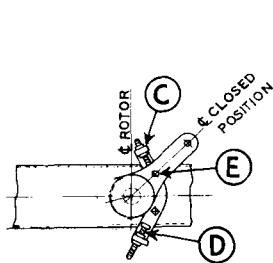

Fig. 4
(a) **Rotor Crank Stop . .** This is the stop arrangement found on the switch base, located near rotor crank. Plan views of this stop arrangement may be seen in Figures 4 and 5, page 5. This stop limits the travel of the rotating insulator, stopping the drive crank and consequently the rotating insulator stack in both the switch open and closed position. Adjusting bolts (C) and (D) which limit the rotor crank travel are secured solidly to switch base, and a projection (E) fastened to rotor crank strikes these adjusting bolts in the switch open and switch closed positions.
The final step in single pole switch adjustment is setting of the stop bolts which are on the switch rotor bearing. The closed position bolt of the rotor crank stop at the switch base should be adjusted so that it engages the mating projection on the rotor crank when the switch is in the fully closed position. See Figures 4 and 5.
To set the open position stop, the blade is moved to the full open position which is with the blade axis at 75 degrees with respect to the base axis, and again set the rotor open stop bolt in the same manner as the closed stop bolt. See Figures 4 and 5.
**Operation** . . Switches will now operate freely with moderate effort applied to the operating handle. All blades should operate together to the fully closed position. It may be necessary to slightly adjust one or more "open position" stop bolts, Figures 4 and 5, page 5, to obtain proper open position of blades. Operate several times to check adjustments. Be sure all blades operate to the fully closed position when the handle is locked closed. Finally, tighten the two stainless steel set screws, (8) of Figure 8, until their dog points pierce the pipe. This will permanently secure the handle to the vertical operating pipe.